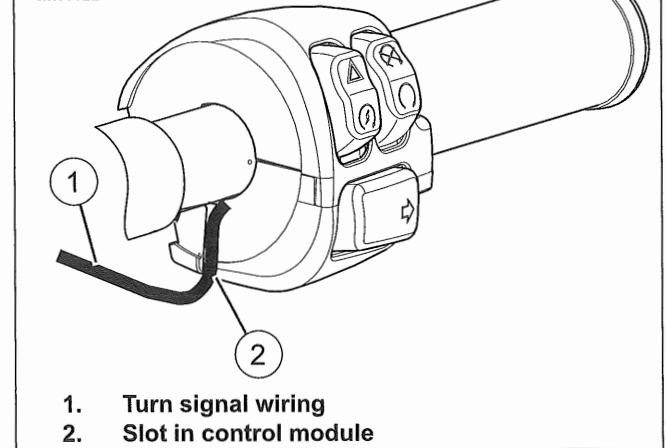

Figure 7-20. Turn Signal Routing (Typical)
- **Handlebar-mounted turn singles:** See Figure 7-20. Verify that turn signal wiring (1) is routed through opening (2).